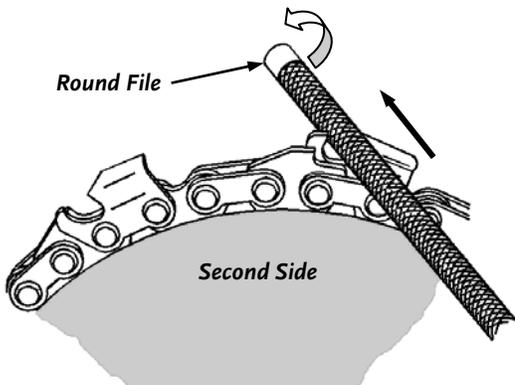

Figure 9
5. Turn the BEAVER BLADE around to sharpen the other side. Change the angle of the round file to follow the angle of the cutting edge for teeth on this side (**Figure 9**). Start sharpening at your mark. Sharpen the teeth that have not yet been touched. Remember to pay attention to the angle of the file on the tooth and use the same number of strokes per tooth.